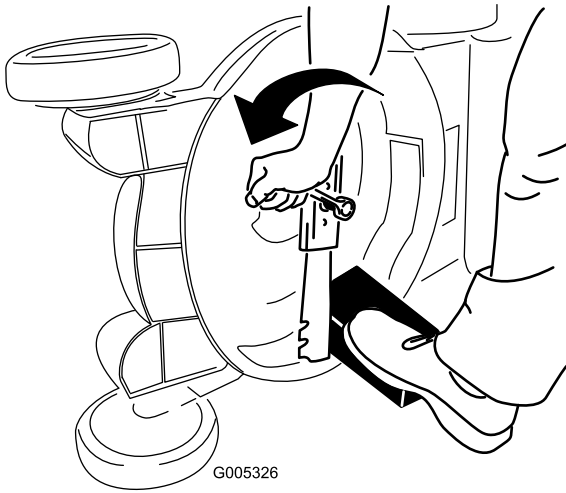

Figure 27
- Use a block of wood to hold the blade steady (Figure 27).
- Remove the blade, saving all mounting hardware (Figure 27).